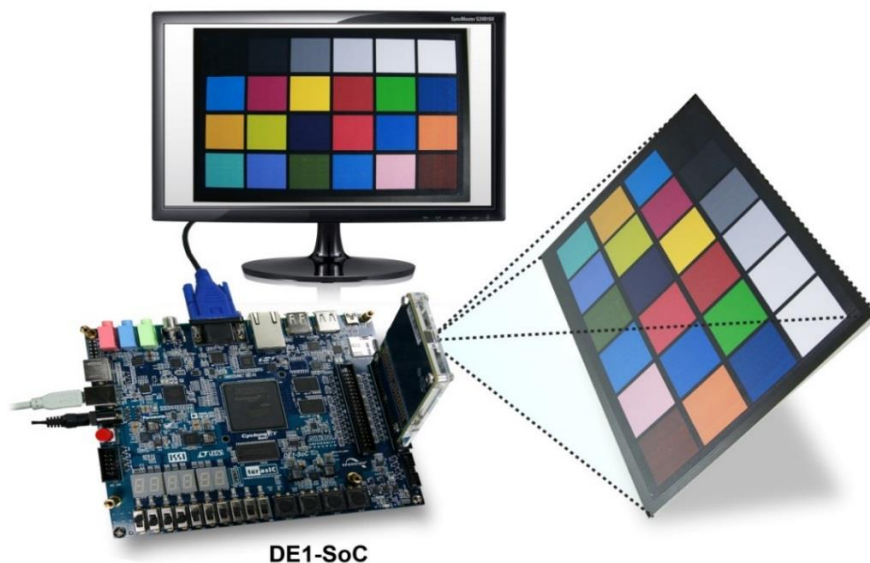

Figure 4-2 DE1-SoC demo hardware setting up
As shown in Figure 4-2
- Plug D8M onto DE1-SoC JP2(GPIO 1), connect VGA monitor to J9 see **Figure 4-2**.
- Plug D8M onto DE1-SoC JP2 (GPIO 1), connect VGA monitor to J9 see **Figure 4-2**.